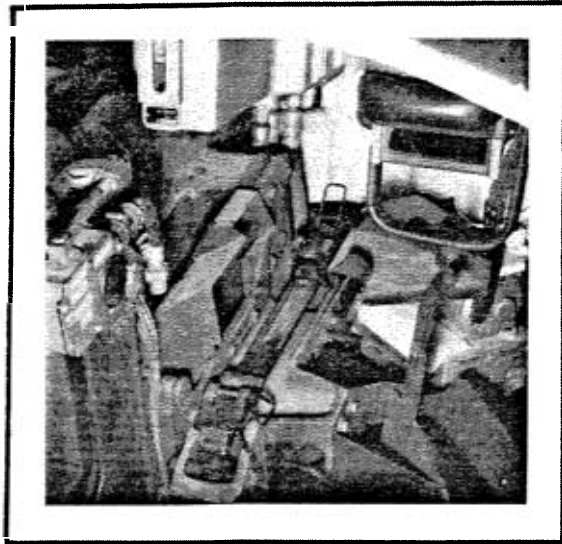

FIG. 3-49. COAX MOUNT
g. Coax Mount (Fig. 3-49). The loader is responsible for loading and servicing the 7.62 mm PKT coax machine gun. The mount for the coax is located to the right of the main gun on the gun frame. Beneath the mount hangs a cloth bag that catches the shell casings.